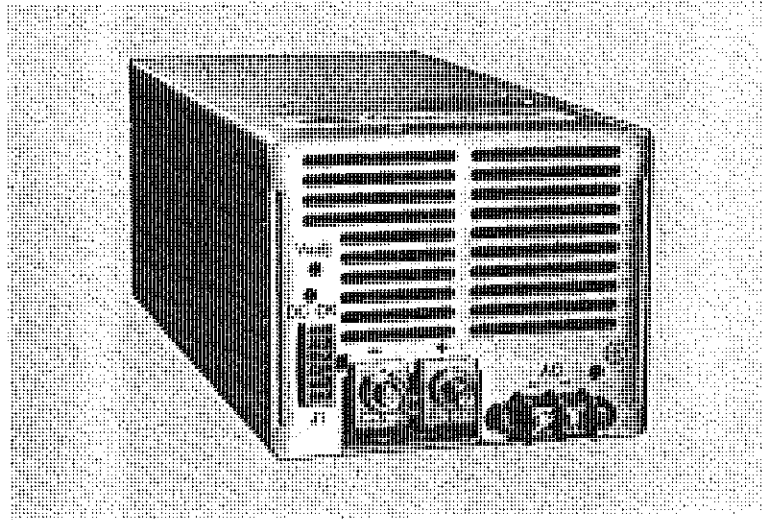

Figure 1. F Series Power Supply
- 1.2 The F Series are compact, single-output switching power supplies with output power levels of 650, 800 and 1,000 watts. See Fig. 1. They feature input power factor correction to 0.98 and worldwide input autoranging in 4 x 5 and 5 x 5 inch case formats. There are 24 standard models with output voltages from 2VDC to 48VDC. The units are safety agency recognized by UL and certified by CSA and TUV.